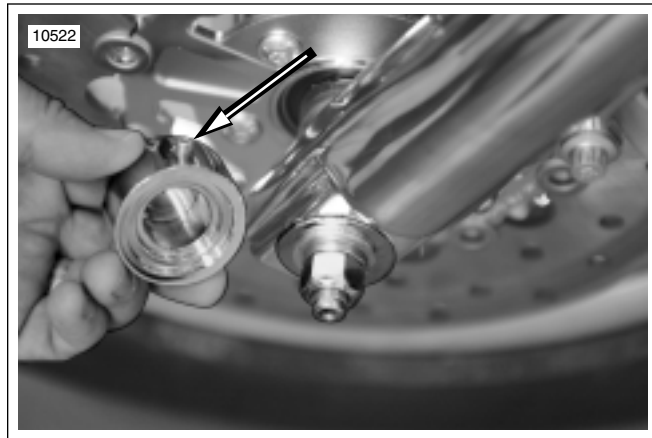

Figure 2-7. Front Axle Cover Set Screw
1. See Figure 2-7. Loosen but do not remove set screw under cover. Remove cover.